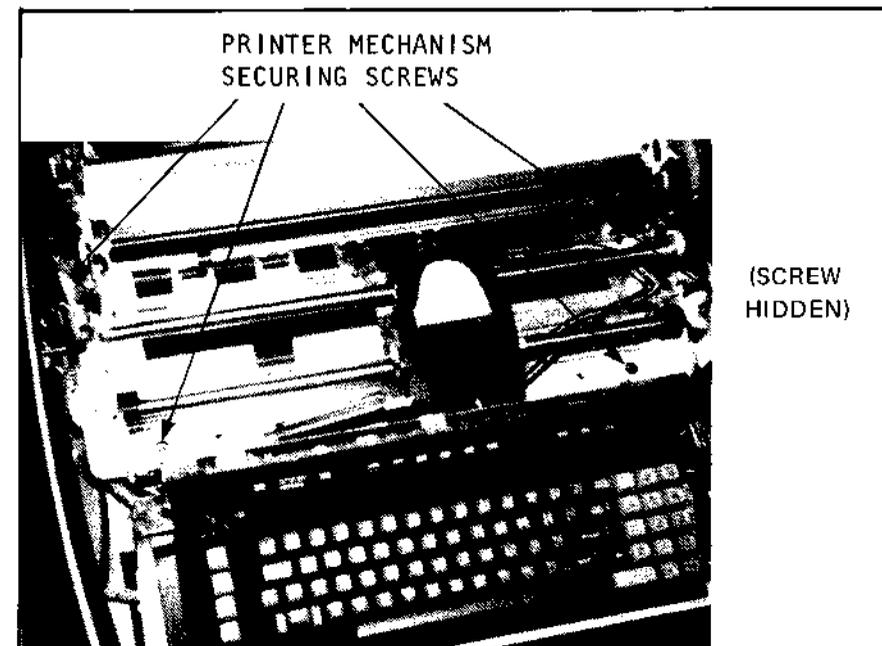

Figure 4-6 Printer Mechanism Base Retaining Screws
##### 4.4.1 Disassembly (Figure 4-6)
- h. Refer to Figure 4-6. Remove four screws securing the printer mechanism to the base and lift the mechanism out of the base.